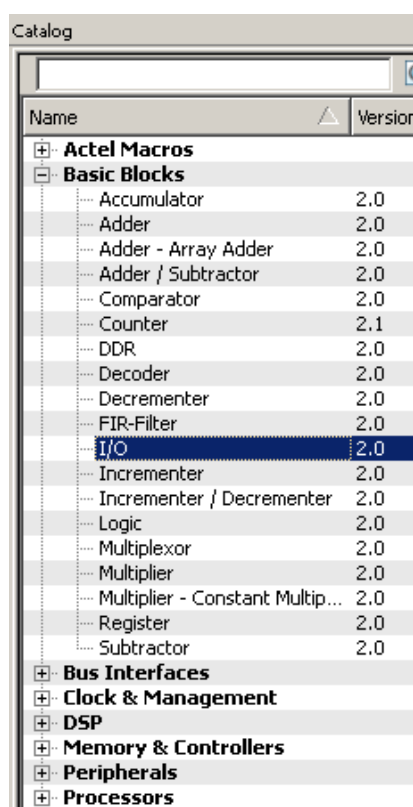

Figure 8-2 • SmartGen Catalog
2. On the left-hand side of the Catalog View, select **I/O**, as shown in Figure 8-2.